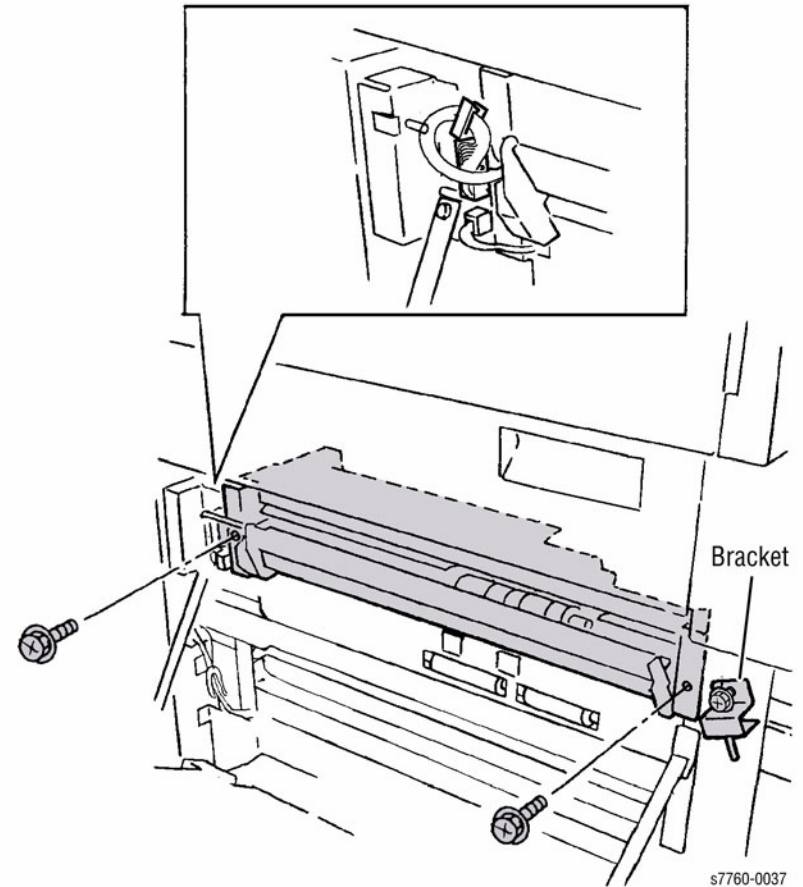

Figure 1 Removing Tray 3 Feeder
3. Removing Tray 3 Feeder (Figure 1).